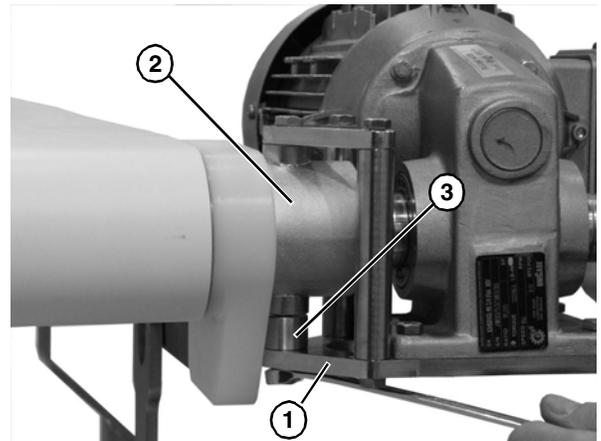

Figure 16
4. Attach the bottom gearhead mounting bar (Figure 16, item 1) to the motor mounting bracket (Figure 16, item 2) with spacer (Figure 16, item 3).